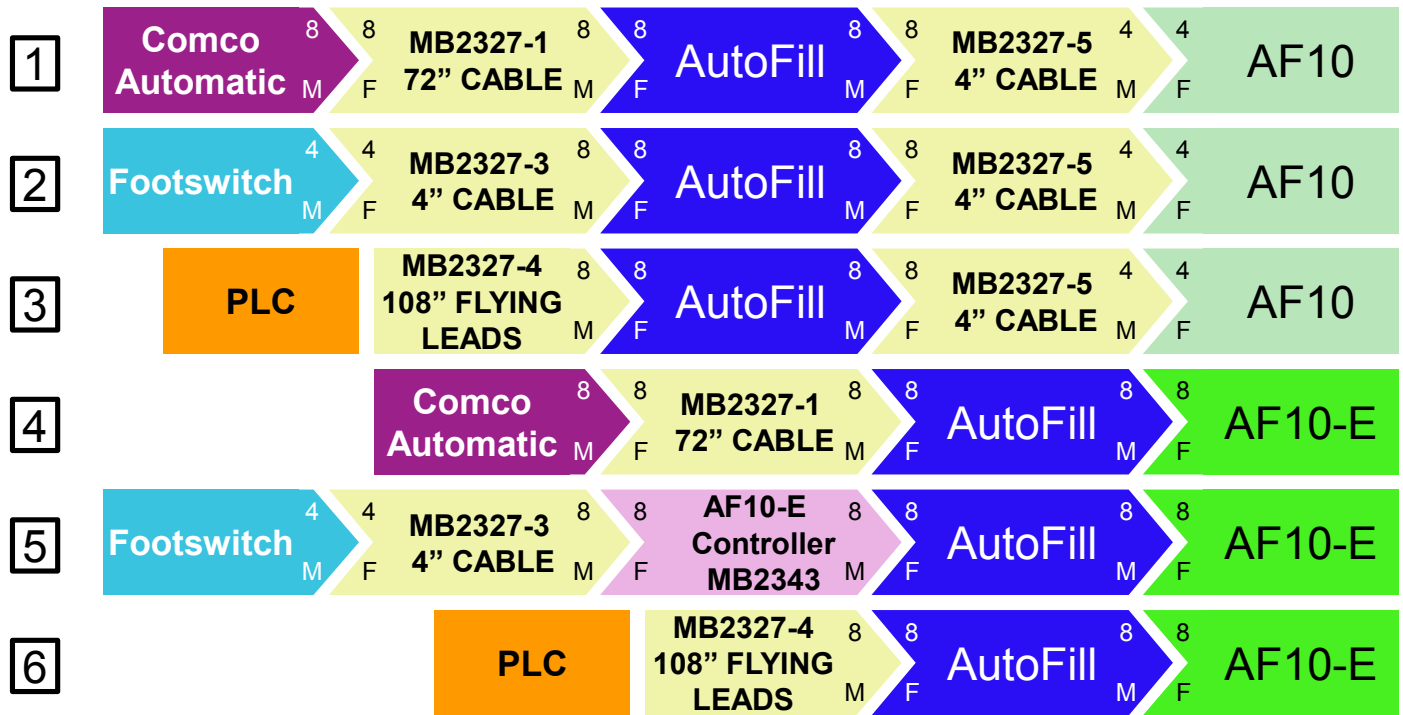

Figure 1 - Cables
See **Figure 1** to determine which cables are needed.
Single AF10-ET-2 with a footswitch running X-Powder (*Configuration A + Figure 1, Case 5*)
Four AF10-ET-1 controlled by a Comco JetCenter, all running C-Powder (*Two Configuration B + Figure 1, Case 4*)
Two AF10-T-1 blasters controlled by a PLC, one running K-Powder, one running G-powder (*Configuration C + Figure 1, Case 3*)
5. Make all pneumatic and electrical connections as shown in **Figure 2**. Cables X and Y are based on data shown in **Figure 1**. Cable Y is not always necessary. Cap unused vacuum generator connection and/or drum vibrator connection as appropriate. If this is the first time connecting AutoFill, make sure the flow control on the powder drum is fully open (fully CCW).
4. Cables X & Y will vary depending on installation. See Figure 1.